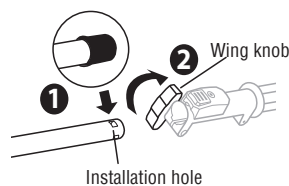

Fig. 3A
2. Loosen the wing knob. (Fig.3A)